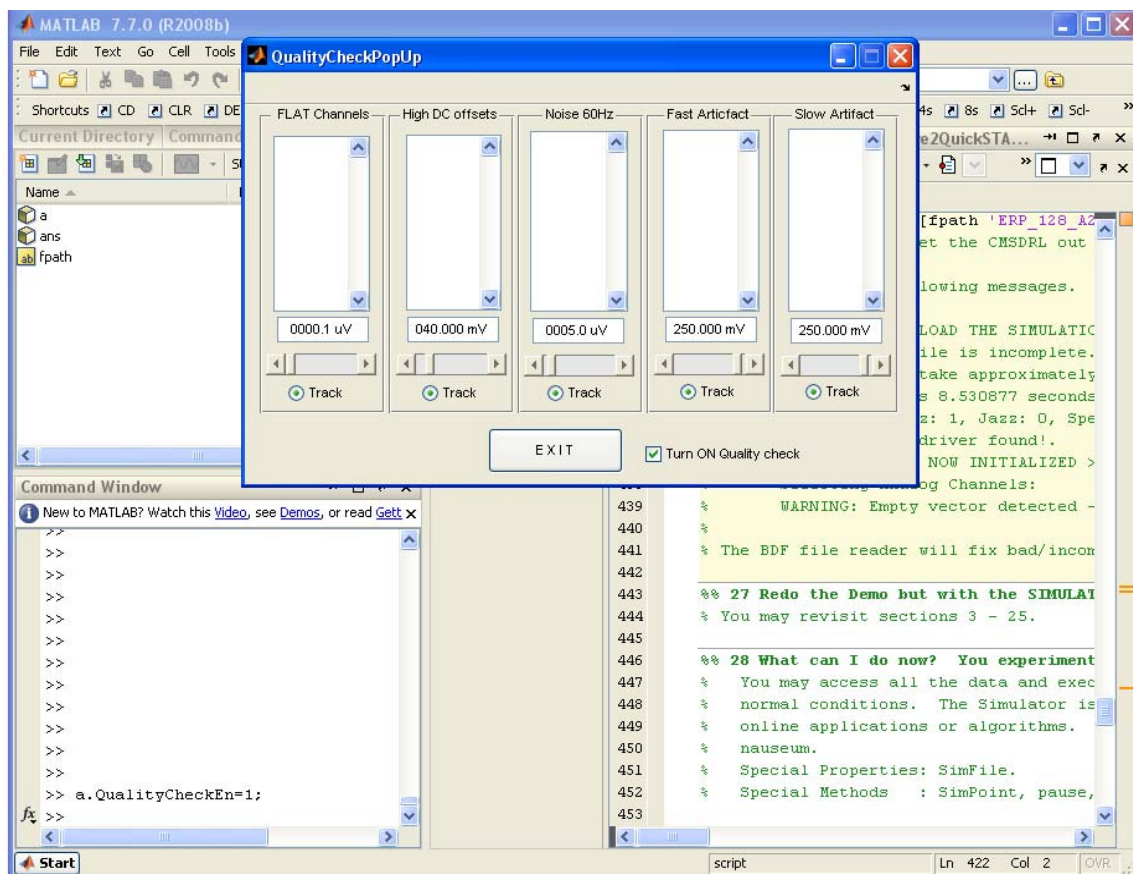

Figure 4: Quality Check Pop up window
3. The Quality Check panel will pop up, see figure 4.